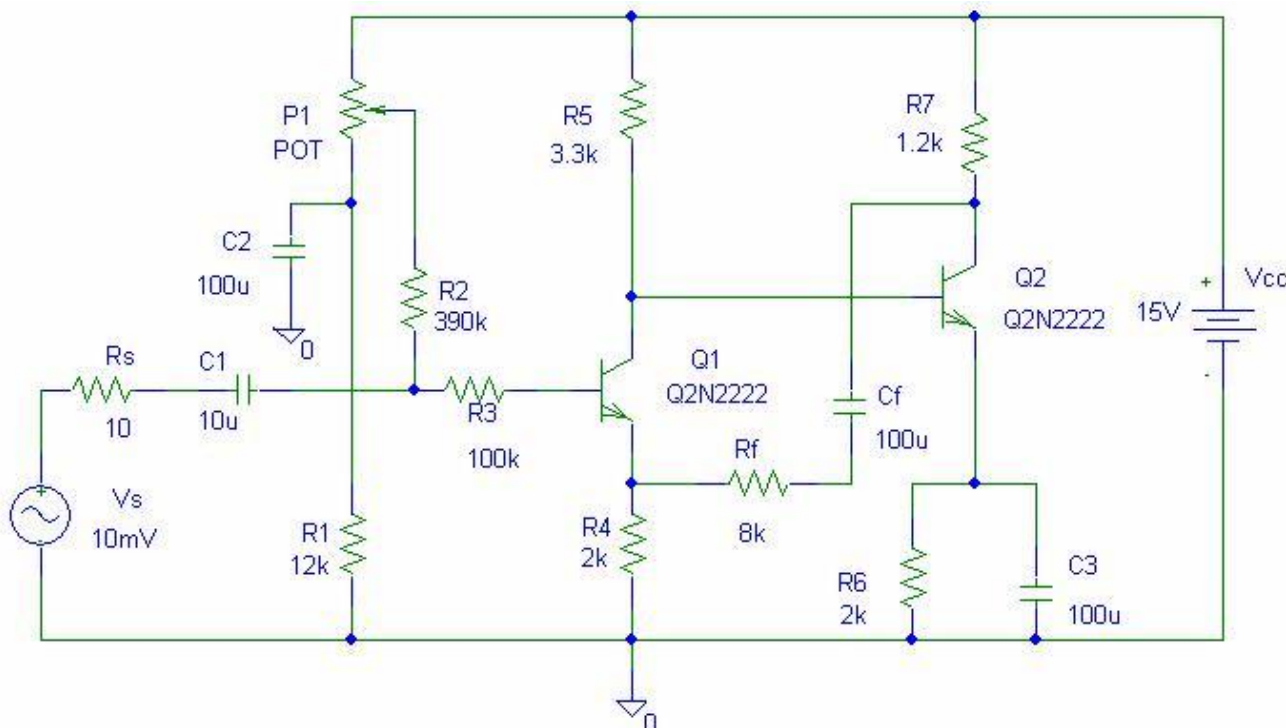

Fig 1 Voltage amplifier circuit with a series-shunt negative feedback
- The circuit has a closed loop (Figs. 1, 3);
3.1. Draw the circuit corresponding to the negative feedback voltage amplifier shown in Figure 1 using the Schematics utility.
3. If the feedback loop in Fig. 1 is opened, what is the effect on the bandwidth of the amplifier?